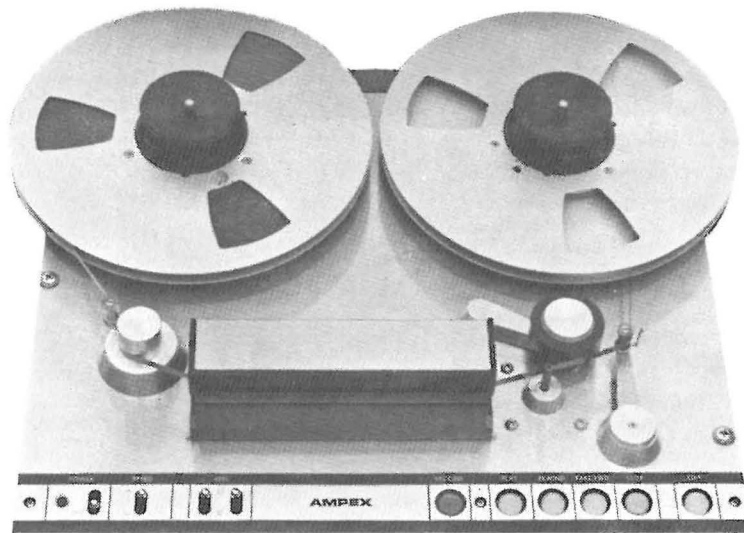

Fig. 1-1 Tape Transport
1.2 TAPE TRANSPORT (Figure 1-1)